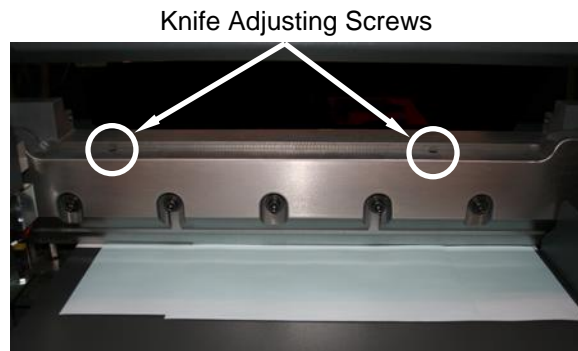

Figure 22
2. Back off the knife adjusting screws on top of the knife bar several turns (Figure 22). A new knife will cut deeper than one that has been ground several times. Failure to back off the screws could damage the knife and/or the cutting stick.